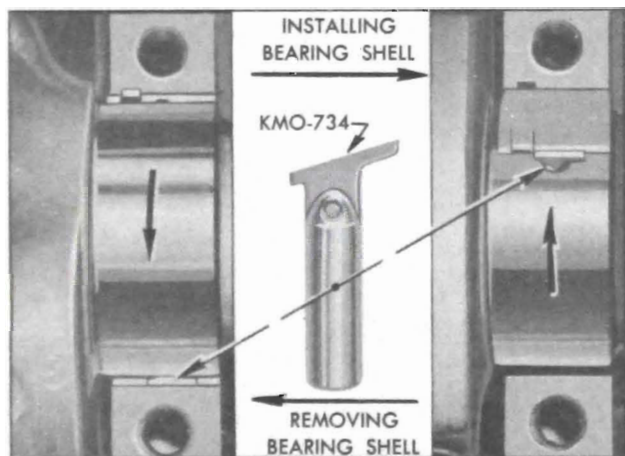

Figure 2-29—Removing and Installing Crankshaft Bearing Upper Shell
2. Remove upper bearing shell by inserting Bearing Shell Remover and Installer KMO-734 in oil hole in crankshaft, then slowly turning crankshaft so that the tool rotates the shell out of place by pushing against the end without the tang. See figure 2-29. CAUTION: When turning crankshaft with rear bearing cap removed